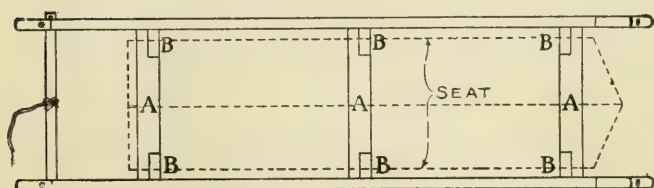
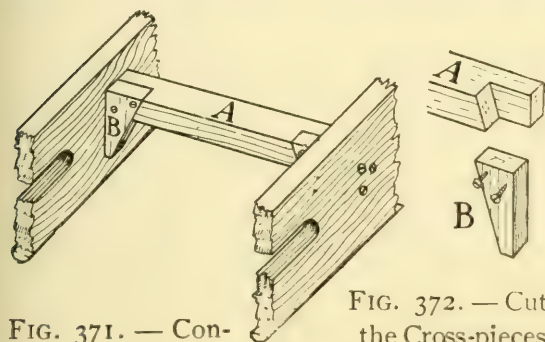
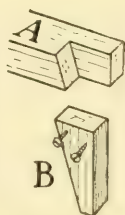

FIG. 370. — Plan of Runners and Cross-pieces.
FIG. 371. — Connect the Runners like This.
FIG. 372. — Cut the Cross-pieces and Braces like This.
**Connecting Cross-pieces** (*A*, Figs. 370 and 371) 12 inches long, 2 inches wide, and  $1\frac{1}{2}$  inches thick and prepare the ends of each as shown at *A* (Fig. 372); then cut the six braces *B* (Figs.
370 and 371) as shown in Fig. 372, to fit the mortises in the ends of *A*. Screw the braces to the cross-pieces and to the runners (Fig. 371), then screw the cross-pieces between